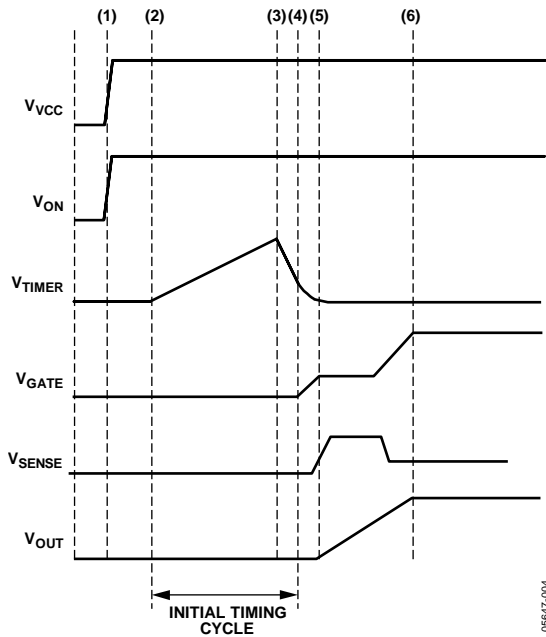
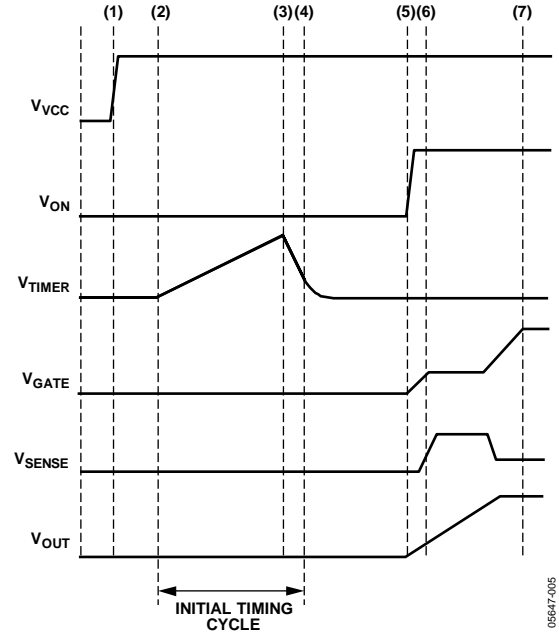

Figure 30. Startup (ON Asserts as Power Is Applied)
Figure 31. Startup (ON Asserts After Power Is Applied)
When VCC is first connected to the backplane supply, the internal supply (Time Point (1) in Figure 30) of the ADM1175 must be charged up. A very short time later (significantly less than 1 ms), the internal supply is fully up and, because the undervoltage lockout voltage has been exceeded at VCC, the device comes out of reset. During this first short reset period, the GATE pin is held down with a 25 mA pull-down current, and the TIMER pin is pulled down with a 100 μA current sink.
When the initial timing cycle terminates, the device is ready to start a hot swap operation (assuming the ON/ONB pin is asserted). In the example shown in Figure 30, the ON pin is asserted at the same time that V_{CC} is applied, so the hot swap operation starts immediately after Time Point (4). At this point, the FET gate is charged up with a 12 μA current source. At Time Point (5), the threshold voltage of the FET is reached, and the load current begins to flow. The FET is controlled to keep the sense voltage at 100 mV (this corresponds to a maximum load current level defined by the value of R_{SENSE}). At Time Point (6), V_{GATE} and V_{OUT} have reached their full potential, and the load current has settled to its nominal level. Figure 31 illustrates the situation where the ON pin is asserted after V_{CC} is applied.